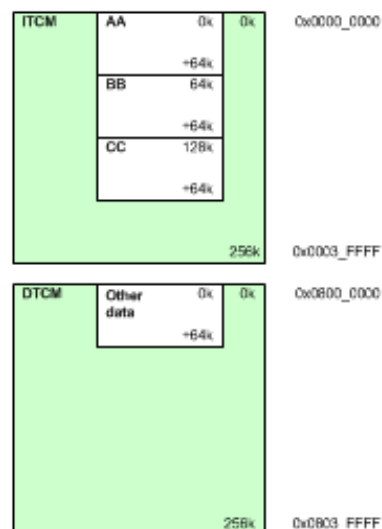

Figure 6: Booting the I-TCM ARM926EJ-S
After the secondary bootloader has been loaded, this 64 kbyte segment is switched over to the I-TCM. The loaded secondary bootloader is not lost during the changeover to the I-TCM. Figure 6 shows the course of the loading of a code image into the D-TCM (for example secondary bootloader). After the PowerOn Reset the TCM926 configuration is set to 256 kbytes D-TCM. Since the assignment of the SRAM blocks in the I-TCM and D-TCM memory is completely twisted, the bootloader has to fill up the code image in 64 kbyte blocks from the lower D-TCM block upwards. The address order is not twisted in the respective TCM block. After the download to the D-TCM the final TCM926 configuration is set in the TCM926_MAP register (see Chapter 5.3.8). Subsequently the bootloader has to insert the TCM memories in the coprocessor interface (CP15 c9) into the address area.
- First the 64 kbyte segment that is already assigned to the I-TCM is filled completely. Afterward the code image is loaded further into the D-TCM in the correct order (see Figure 6). After the download to the D-TCM the final TCM926 configuration is set in the TCM926_MAP register (see Chapter 5.3.8). The secondary bootloader still has to also insert the final configuration of the TCM memories into the coprocessor interface (CP15 c9) into the address area.